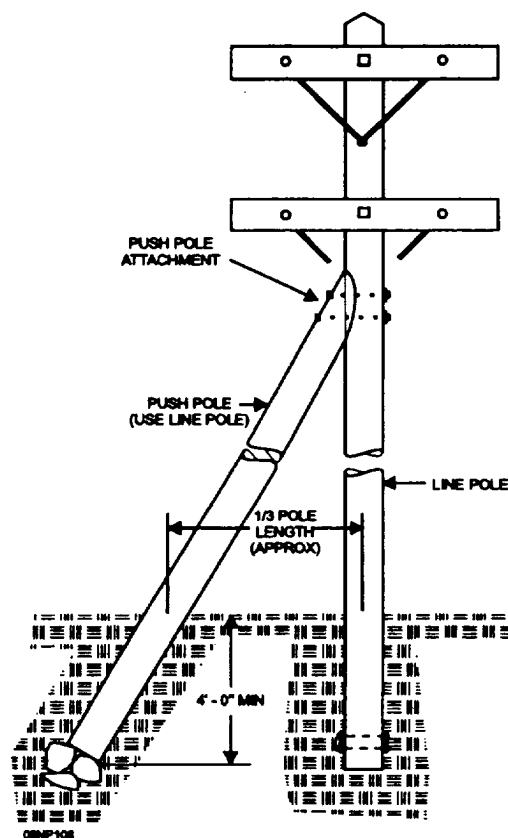

Figure 4-11.—Push guy.
**PUSH GUY.**—A push guy, or a push brace, is used when it is impossible to use down guys (fig. 4-11). When it is impossible to obtain sufficient right-of-way for a pole guy, the push brace can usually be installed. The push guy is constructed from an old power pole and a special bracket called a push brace attachment.